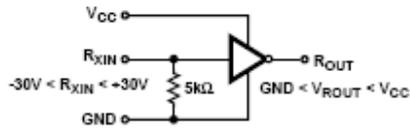

FIGURE 8. RECEIVER
**Electrical Specifications** Test Conditions:  $V_{CC} = +5V \pm 10\%$ ,  $T_A =$  Operating Temperature Range. Test Circuit as in Figure 8 Unless Otherwise Specified